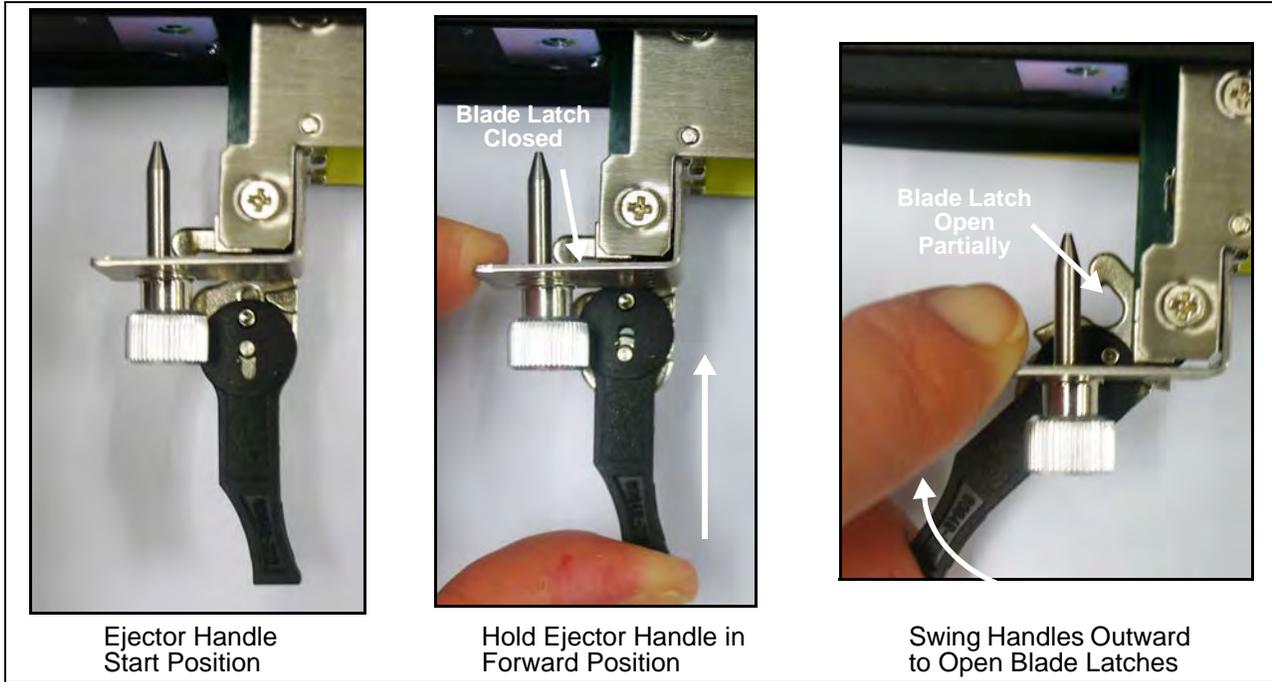

Figure 5.27 - G10 IIC Ejector Handle (Left) - Opening Blade Latch
2. While keeping the blade still, push and **hold** the ejector handles in the forward position (they will click into place). While continuing to hold the handles in the forward position, swing the handles outward to open the blade latches (**Figure 5.27**).